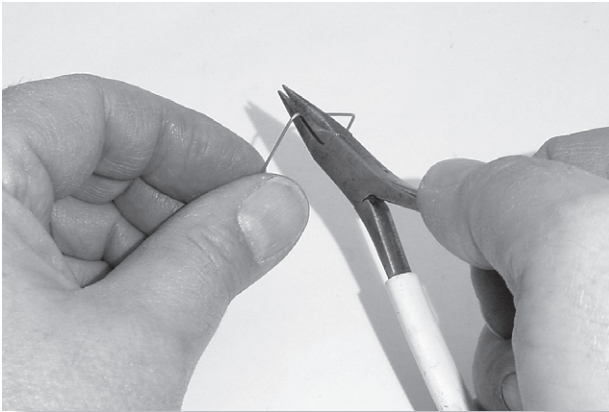

FIGURE 5.31 Bend the other end of the link.
- **BEND** the other end of the link around the long-nosed pliers — see Figure 5.31. The length of link between bends should be the same as that you've just measured